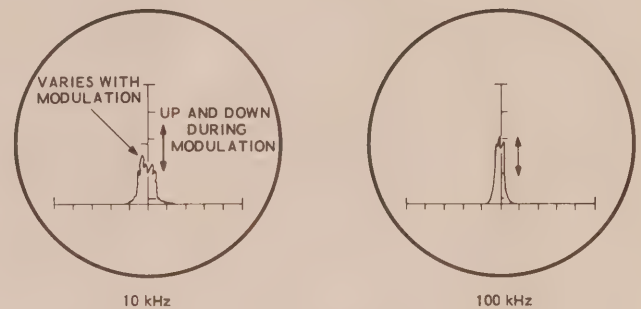

Figure 28
If proper adjustments have been made, the signal being heard from the receiver will appear at the center of the screen base line. CW, AM, RTTY, SSB, and electrical interference signals may be identified as shown in Figures 28 through 36. The width of the signal pip will depend on the setting of the SWEEP WIDTH control.
**Figure 28 - Normal SSB:** Since an SSB signal is only present during modulation, the pip will appear only when there is modulation present. The pip outline will also have peaks and valleys corresponding to the many voice frequencies.